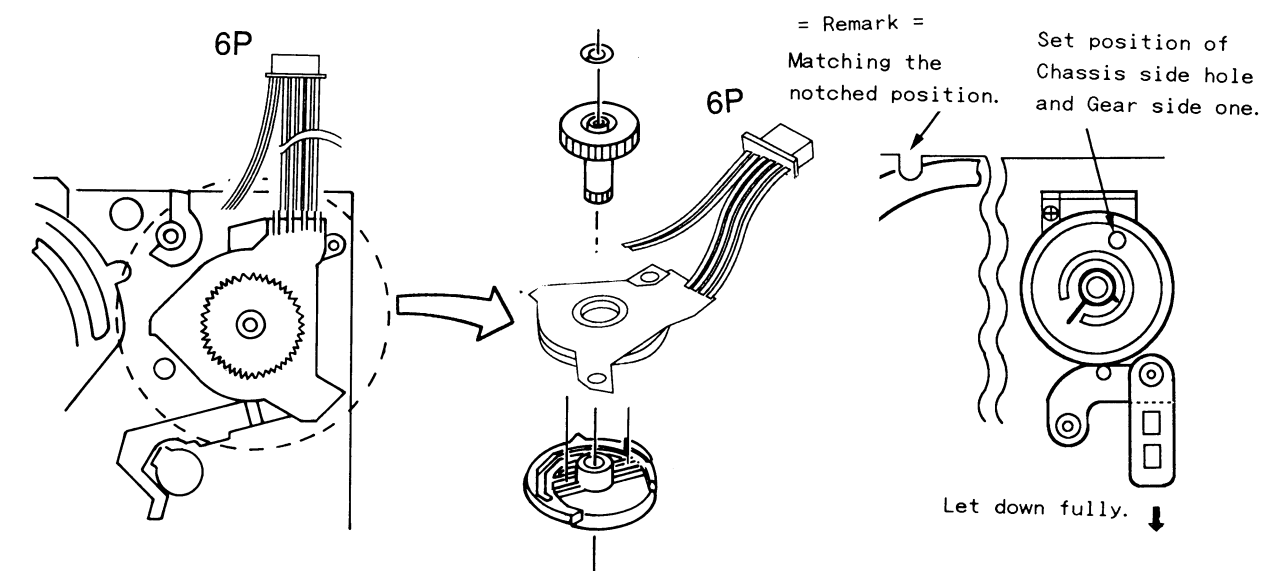

Fig. 2
4-2. Mode Select Switch Positioning (Fig. 2)
- 1) Setting Mode Select Switch on Deck, put 2 bosses on Mode Select Switch onto groove on Cam Power Logic as shown in Fig. 2.